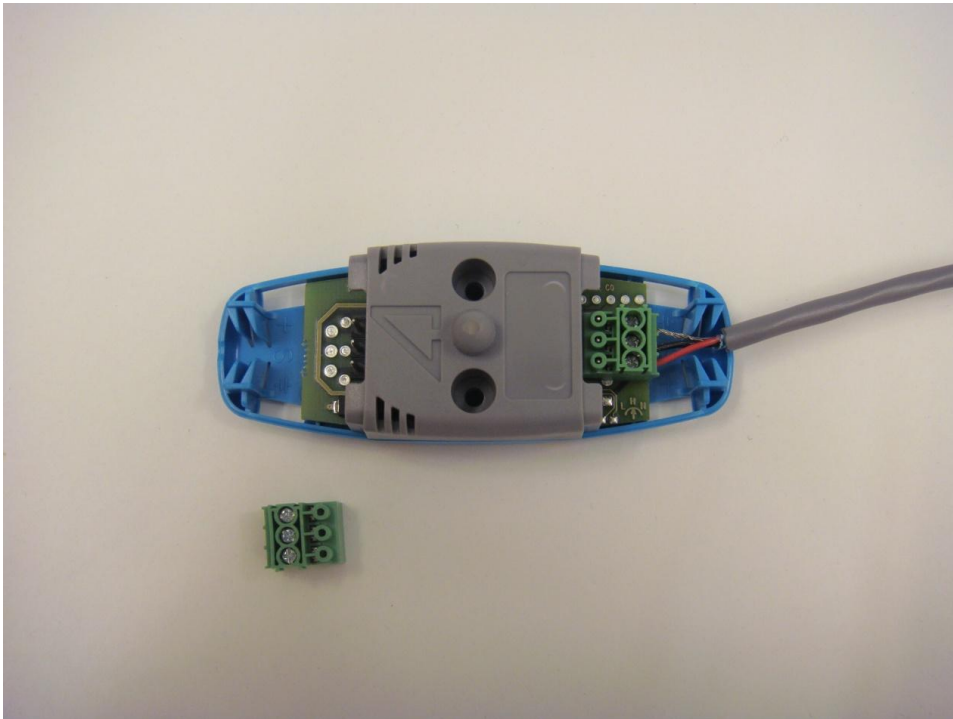

Figure 4.10
5) Attach the connector back to the sensor PCB. (See Figure 4.10)